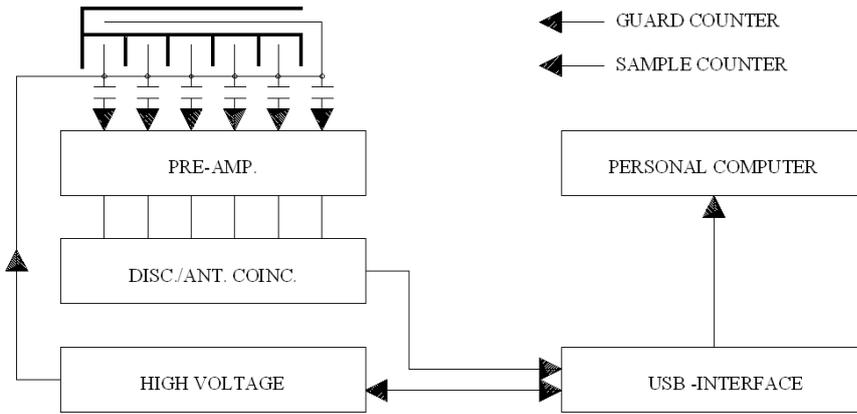
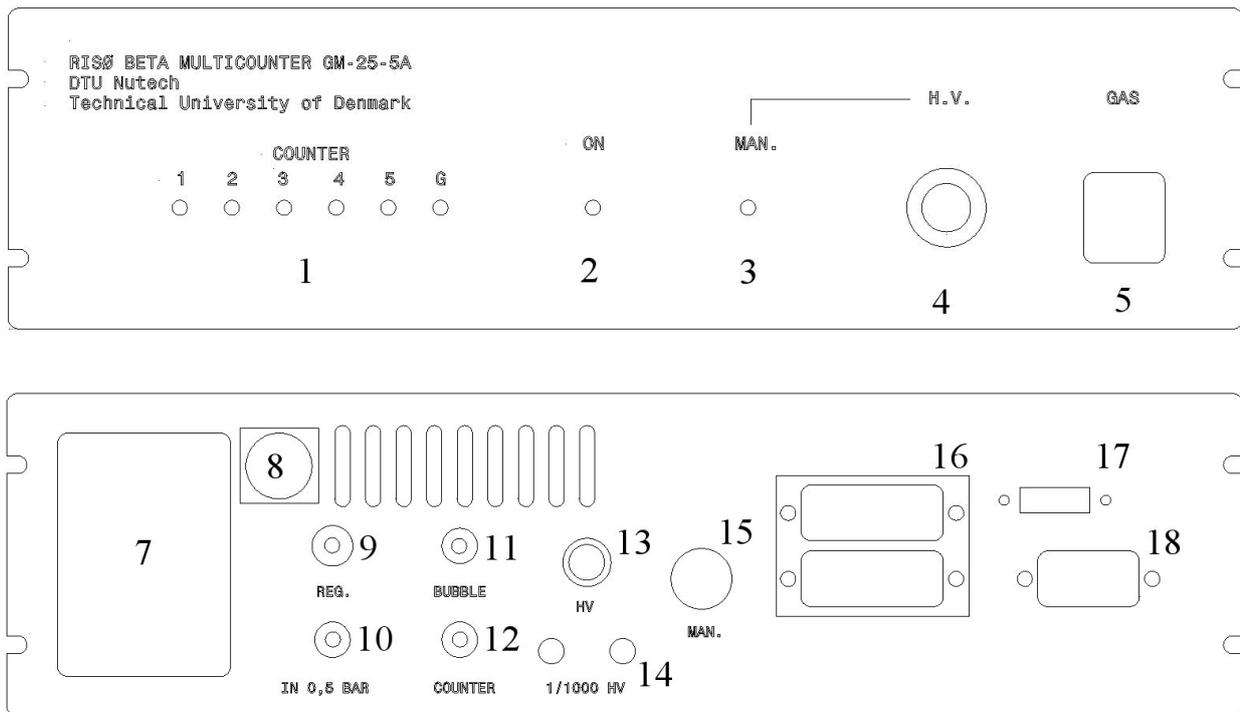

Fig 2. Block diagram of the electronics for the five sample multicounter.
Fig. 3. Discriminator/anticoincidence module.
Another part is an electronic system for treatment of the signals produced by the beta particles in the GM multicounter. A block diagram of the electronic circuit is shown in Fig. 2. Preamplifiers placed on the gas flow counter unit produce signals from the individual counter elements that are fed to the discriminator/anticoincidence module (see Fig. 3) which also incorporates an automatically controlled high-voltage supply. The anticoincidence circuits eliminate the background counts produced in the sample counters by cosmic radiation. The counts are acquired by a built-in microprocessor and transferred to a connected PC via a USB interface.
- 2) Fill PEG 400 oil (Polyethylenglycol) (enclosed) into the bubble chamber with a syringe, approximately 3/4. Access to the bubble chamber is made by removing the yellow plate with inscription "CAUTION This side up" situated on top of the disc/ant. coinc. module. Be sure that the gas flow valve on the rear of the disc/ant. coinc. module(Fig. 3.) is closed (fully clockwise).
- 13) Switch to manual mode by activating the “HV.man.” switch on the rear of the disc./anticoincidence module (Fig. 3) (“HV.man.” LED on the front plate is on).